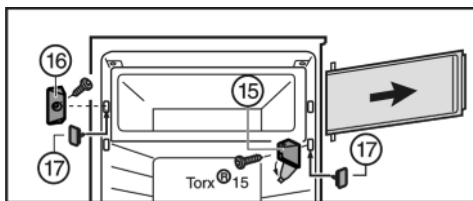

Fig. 6
- ▶ Fold away cover of turn hinge Fig. 6 (15).
- ▶ Unscrew turn hinge Fig. 6 (15) together with compartment door.
- ▶ Unscrew closing element Fig. 6 (16).
- ▶ Close the vacated holes with the accompanying stoppers Fig. 6 (17).